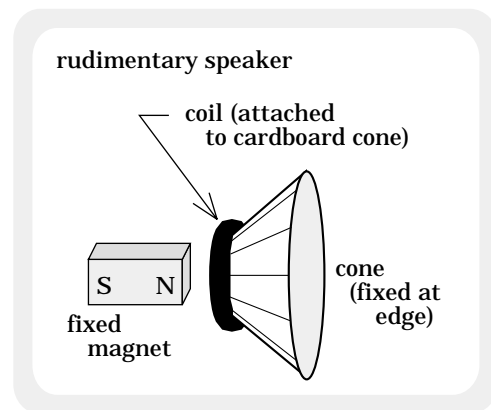

FIGURE 21.15
5.) Speakers: As shown in Figure 21.15, a speaker is comprised of a fixed magnet and a coil attached to a cardboard cone that is itself attached to a rigid frame at its edges (this attachment is not shown in the sketch).
b.) Looking at Figure 21.15, assume the current in the coil makes the cone-side of the coil into a South Pole and the magnet-side of the coil into a North Pole. At that instant, the magnet's North Pole and the coil's magnetic field will repulse one another, pushing the coil and cone outward away from the magnet.